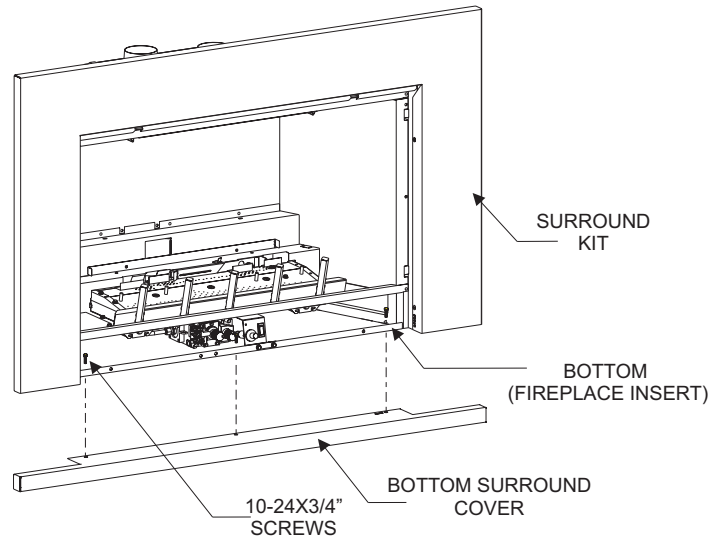

Figure 1
4. Align the Bottom Surround Cover to the bottom of the insert and install the three 10-24 x 3/8 Hex Head Screws through the insert bottom and into the bottom cover as shown in **Figure 1**.